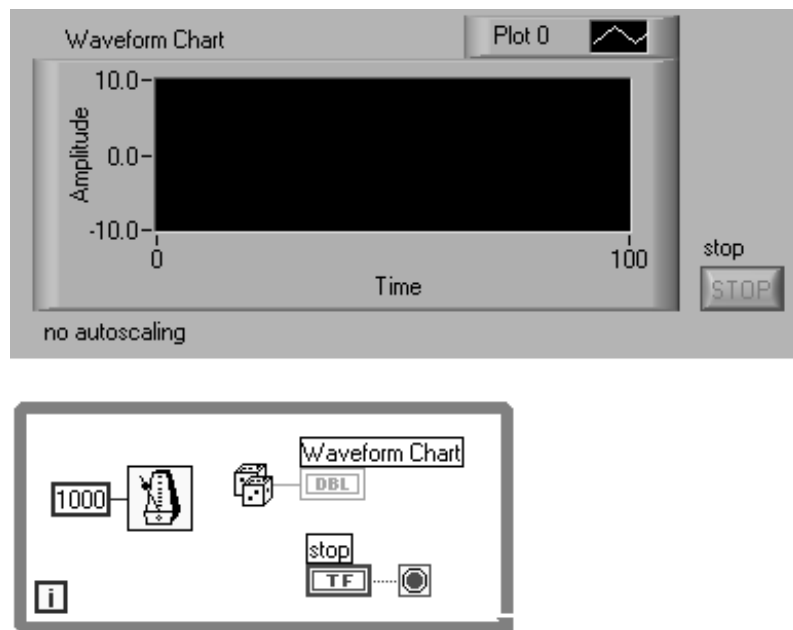

Figure 1-97
1. Begin by dropping a Waveform Chart, and shrinking it as shown in Figure 1-97.